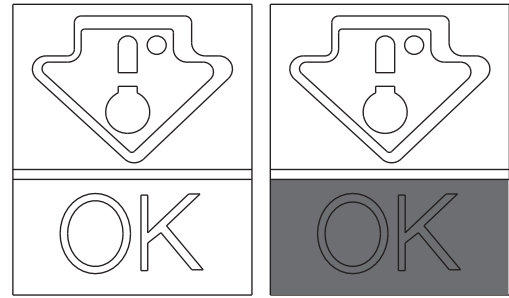

Fig.4
- To maintain the best flavour, nourishment and freshness of foods, it is advisable to store them in the refrigerator compartment as shown in fig. 4 below, making sure to wrap them in aluminium or plastic sheets or in appropriate covered containers to avoid cross-contamination.
Check that on the indicator of the temperature, the word OK is clearly shown. (fig.4)